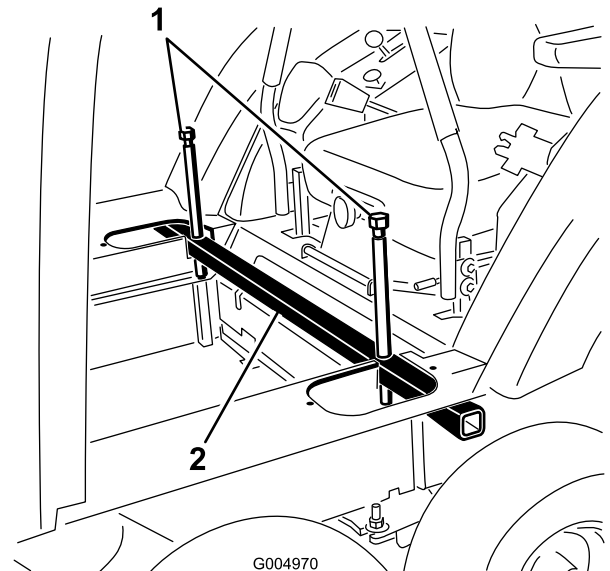

Figure 23
10. Lower the cab into position by slowly and evenly loosening the jacking bolts on each end of the jacking tube (Figure 23).